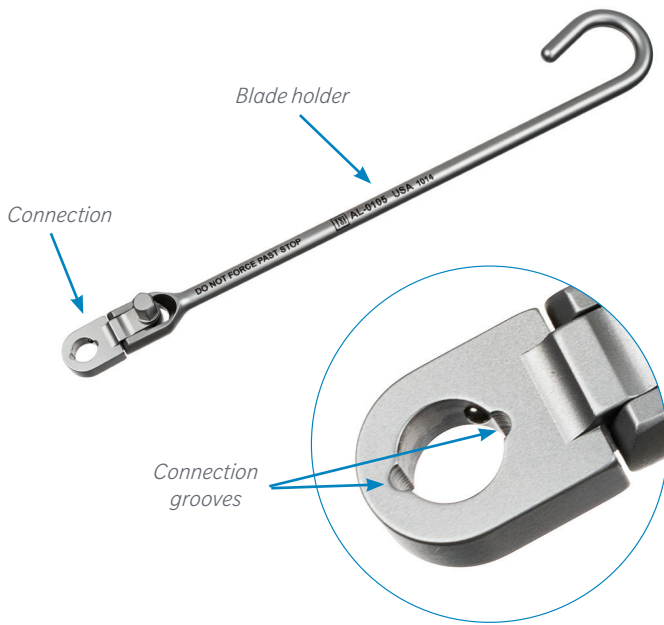

Figure 9
- To attach the retractor blade to the blade holder, insert the blade through the blade holder connection so that the first pin of the connector can pass through the groove in the blade holder (Figure 9). When the first pin is engaged with the blade holder, the blade is attached and able to rotate (Figure 10).